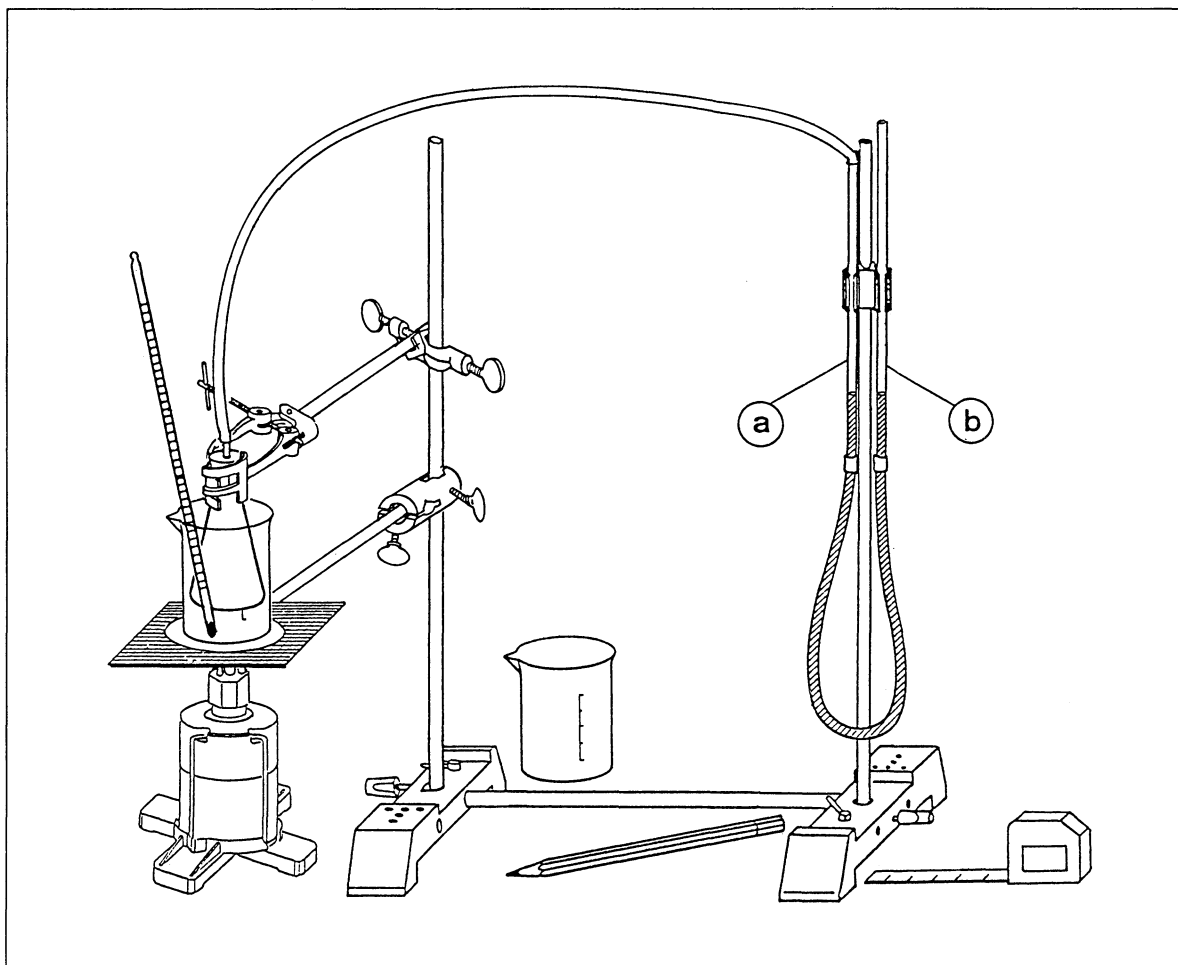

Fig. 1 Experimental setup for heating air with an U-tube manometer connected
1. Assemble the pieces of apparatus as shown in fig. 1.